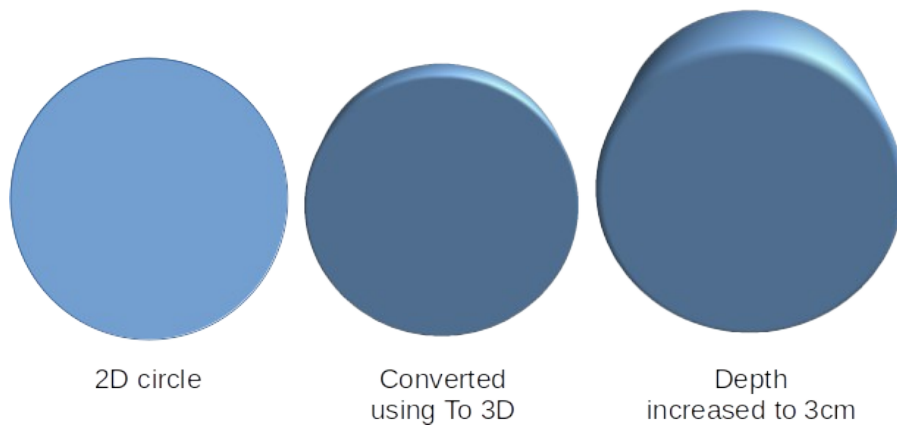

Figure 16: Example of increasing depth
- *Depth* – enter the extrusion depth for the selected 2D object that has been converted to 3D using **To 3D**. Figure 16 shows an example of a 2D circle converted to a 3D cylinder with the extrusion depth increased to 3 cm.